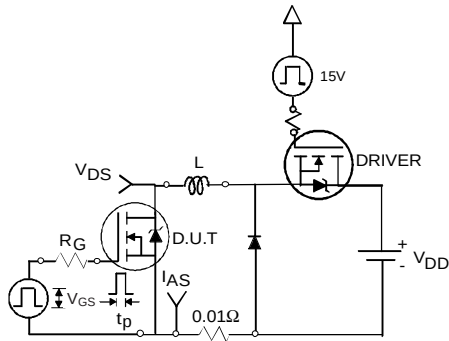

Fig 12a. Unclamped Inductive Test Circuit
- ② Limited by T_{Jmax} , starting $T_J = 25^\circ\text{C}$, $L = 0.12\text{mH}$, $R_G = 25\Omega$, $I_{AS} = 53A$, $V_{GS} = 10V$. Part not recommended for use above this value.
- ③ $I_{SD} \leq 53A$, $di/dt \leq 420A/\mu s$, $V_{DD} \leq V_{(BR)DSS}$, $T_J \leq 175^\circ\text{C}$.
- ④ Pulse width $\leq 1.0\text{ms}$; duty cycle $\leq 2\%$.
- ⑤ $C_{oss \text{ eff.}}$ is a fixed capacitance that gives the same charging time as C_{oss} while V_{DS} is rising from 0 to 80% V_{DSS} .
- ⑥ Limited by T_{Jmax} , see Fig.12a, 12b, 15, 16 for typical repetitive avalanche performance.
- ⑦ This value determined from sample failure population. 100% tested to this value in production.
- ⑧ This is applied to D²Pak, when mounted on 1" square PCB (FR-4 or G-10 Material). For recommended footprint and soldering techniques refer to application note #AN-994.
3. Equation below based on circuit and waveforms shown in Figures 12a, 12b.